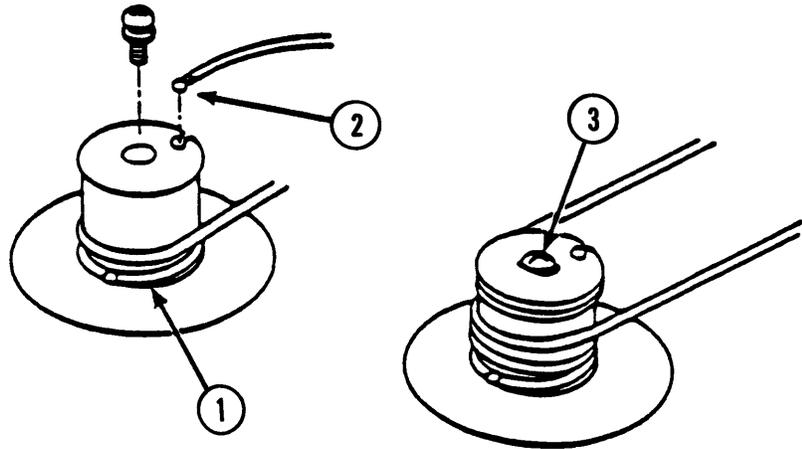

FIGURE 29
8. Seat the motor pulley (Figure 29, #1) on the shaft .
9. Hold the wire snug against the motor pulley with your thumb. Turn the pulley clockwise and wind up the carrier wire (Figure 29, #1).
10. **(For the 15-Inch ImageWriter only, wrap the carrier wire around the left pulley before you continue.)** Insert the short end of the wire into the top slot of the motor pulley (Figure 29, #2).
12. Replace the motor pulley screw (Figure 29, #3).